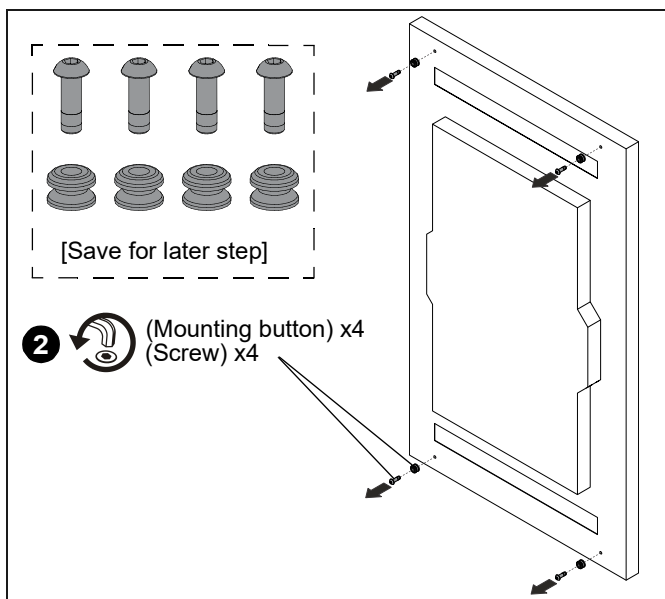

Figure 2
2. Remove four mounting buttons and screws from back of display and set aside. (See Figure 2)